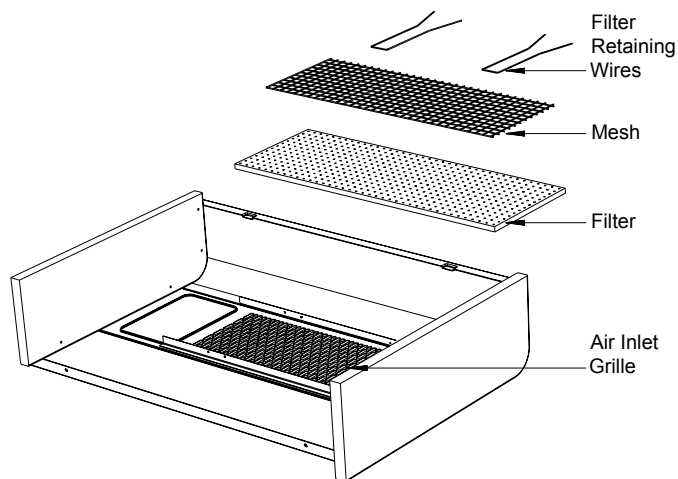

Fig. 5
- **Filter** : The filter can be removed completely for cleaning, but generally provided this is cleaned frequently as detailed above, this should not be necessary. Where removal of filter is required for cleaning, the filter retaining wires can be removed, allowing the mesh and the filter to be taken out (see Fig. 5).